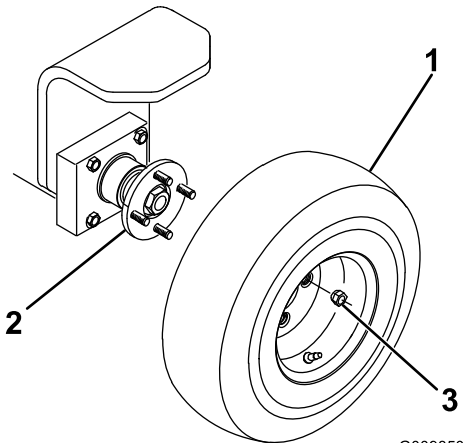

Figure 2
- Mount the wheel assembly onto the rear wheel hub (Figure 2).
- Install the lug nuts (Figure 2) and tighten them to 45 to 65 ft-lb (3 to 5 N-m).